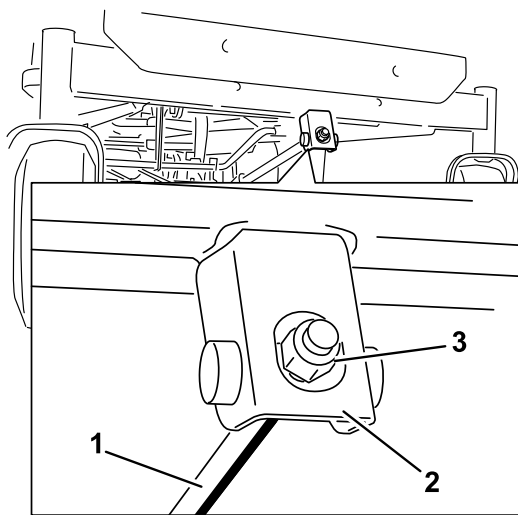

Figure 63
6. To adjust the front-to-rear blade slope, rotate the adjustment nut in the front of the mower (Figure 63).